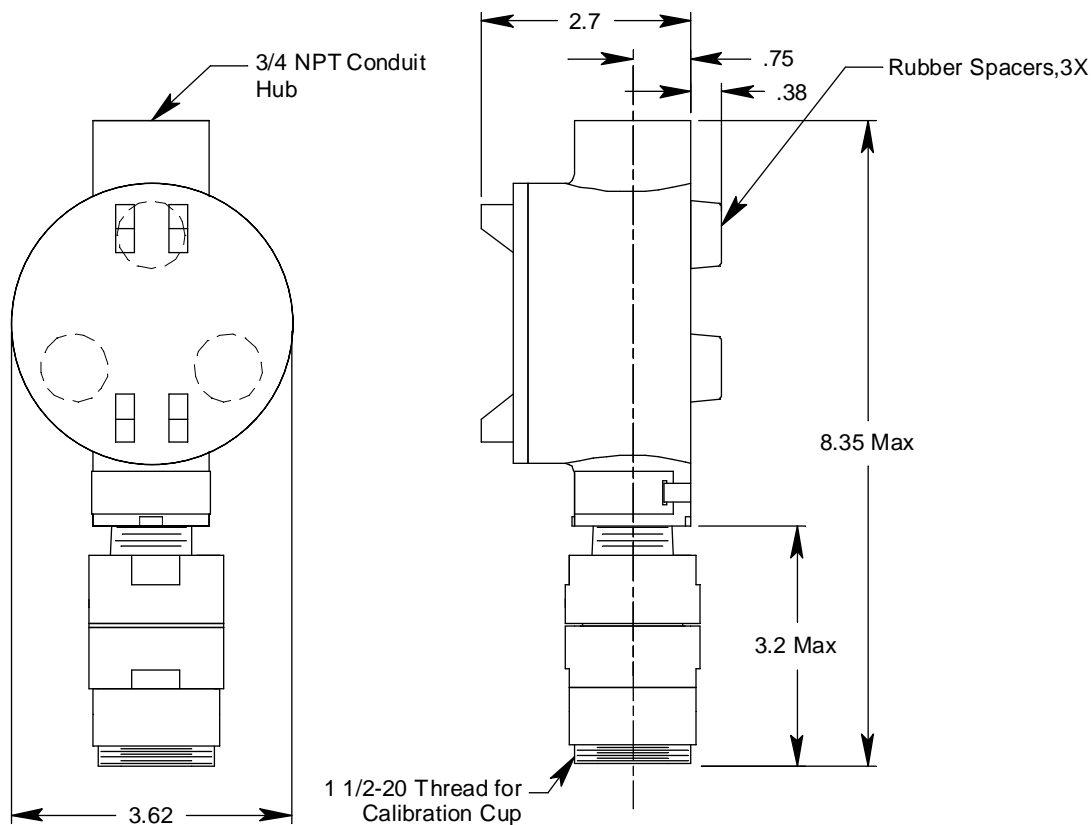

Figure 2: 65-2515RK Outline & Mounting Dimensions
NOTE: The oxygen detector in the 65-2515RK is normally provided with an Adalet XIHSCFC3 junction box rated explosion proof for Class I, Groups B, C, and D. This combination is shown in Figure 2 above. Any junction box with an internal volume less than or equal to
2. At the mounting site you select, hang or mount the junction box with the detector facing down (see Figure 2).